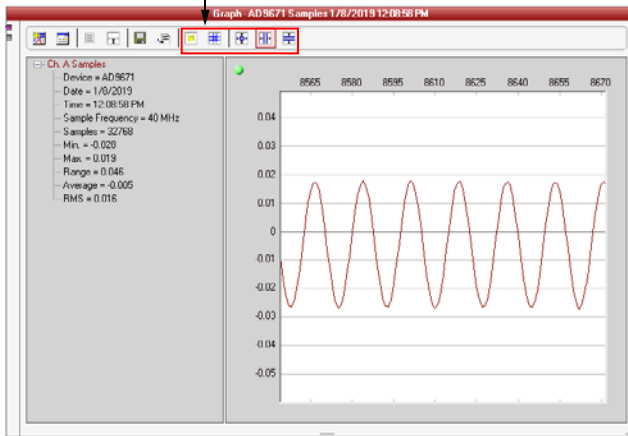
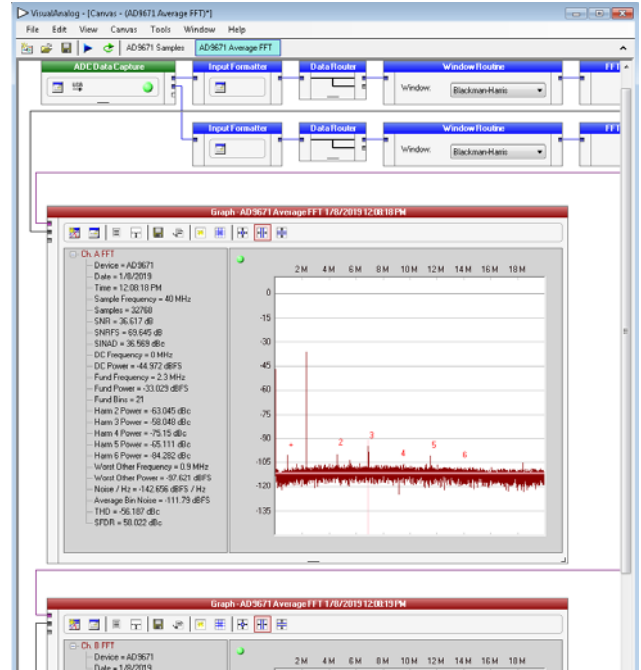

Figure 13. Sample Canvas Output Window
Figure 14. Average FFT Canvas Output Window
3. Click the blue arrow on the upper left side of the **VisualAnalog** toolbar shown in Figure 14 to run the canvas once, or click the green repeat button to set the canvas to run continually. The **Samples** canvas produces two windows that show 8192 time domain samples for Channel A and Channel B, as shown in Figure 13.
- The AD9671\_Average\_FFT.vac canvas is set up for running and calculating fast Fourier transform (FFT) as shown in Figure 14. The average count is set to five, which means the canvas either needs to be run five times, or left in continuous run mode. The results in Figure 14 show the shaping of the noise floor as a result of the analog filters and the digital high-pass filter.